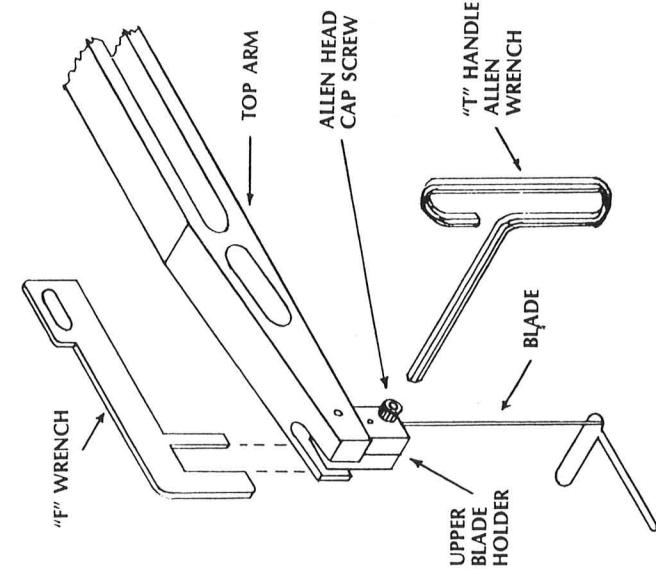

Fig. 5
Step 2: Remove the top end of the blade first. To do this place the 'F' wrench (HA-137) over the upper blade holder with the handle of the wrench along the upper arm. This is to hold the upper blade holder stationary while loosening the set screw. To release the blade from the upper blade holder, place the 'T' handle Allen wrench (ES-86) into the Allen head cap screw on the right side of the upper blade holder and loosen the screw. The upper saw arm will spring up a little. If the old blade is broken remove any remaining pieces (see fig. 5).